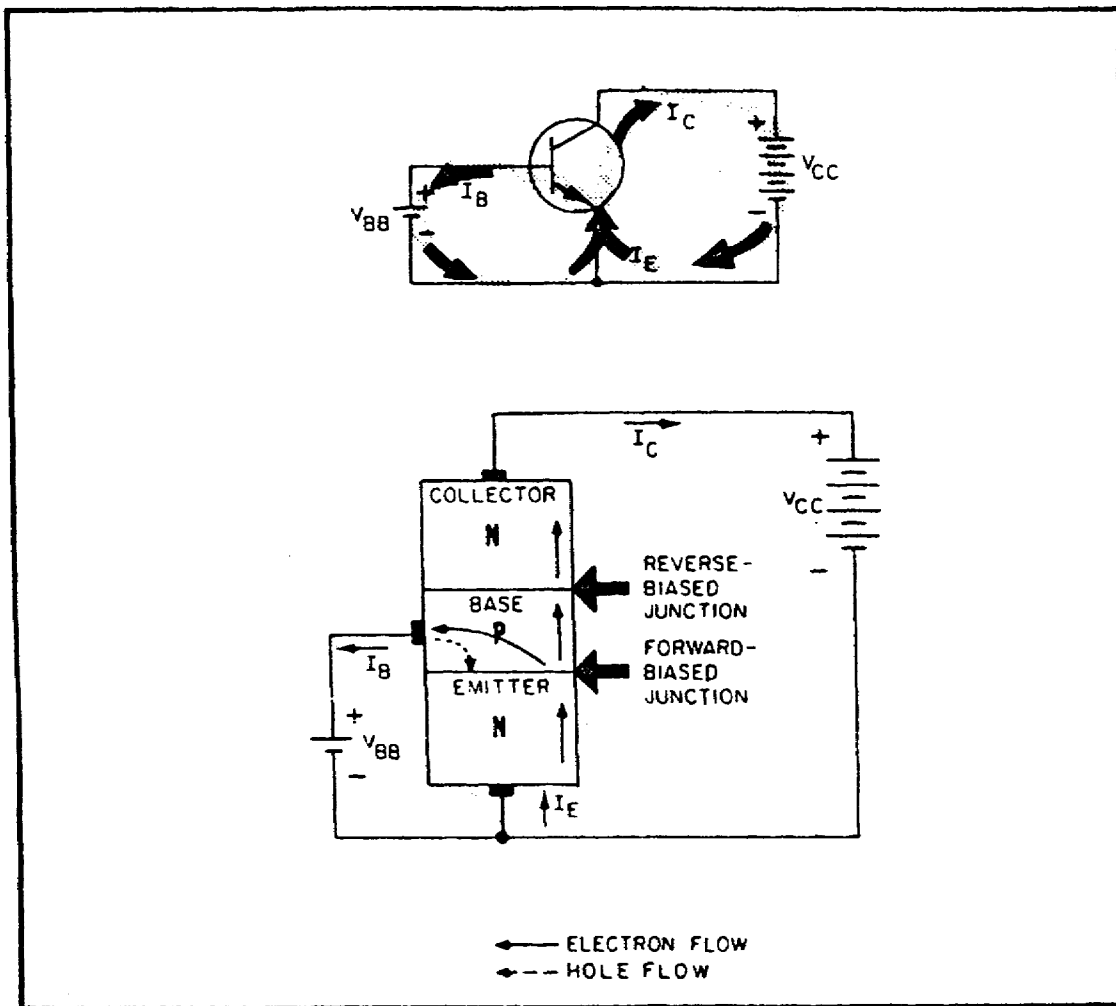

FIGURE 91. NPN TRANSISTOR OPERATION.
(3) *NPN Interaction.* For a better understanding of just how the two junctions of the NPN transistor work together, refer to figure 91 on the following page.